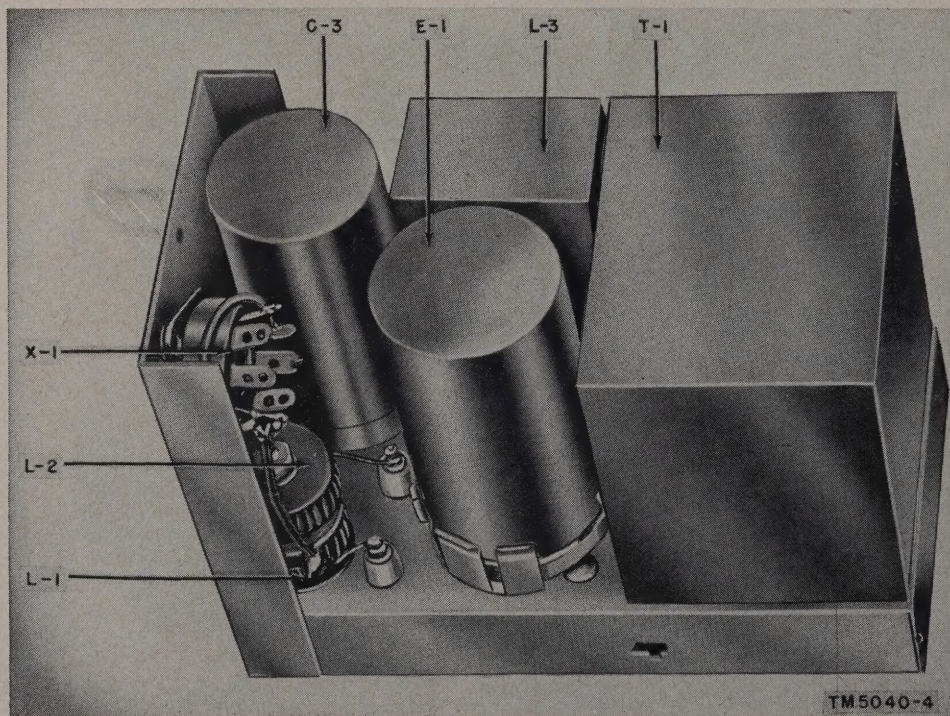

Figure 75. Power Supply PP-282/GRC, top view of chassis.
d. Plug-In Power Supply. Although it can be replaced as a single unit, the plug-in power supply is not furnished as a running spare. However, a spare vibrator is provided with the power supply (fig. 75). Remove the amplifier case and replace the vibrator as follows:
- (1) Loosen the clamp bracket at the rear of the power supply compartment and swing it out of the way.
- (2) Grasp the handle at the rear of the power supply unit and pull it straight out.
- (3) Remove the three green screws which fasten the top cover on the power supply chassis.
- (4) Using the handle on the cover, lift the cover off with a straight upward movement. If the cover is stuck, pry gently with a small screw driver.
- (5) Pull vibrator E-1 (fig. 75) from its socket with a straight upward movement. Do not rock or jiggle the vibrator while attempting to remove it. If necessary, use a small screw driver to pry the vibrator gently from its socket. Be careful not to enlarge the ring clip which holds the vibrator near the base.
d. Plug-In Power Supply. Although it can be replaced as a single unit, the plug-in power supply is not furnished as a running spare. However, a spare is provided for the vibrator within the power supply (fig. 75). Remove the receiver case and replace the vibrator as follows:
- (2) Grasp the handle at the rear of the power supply unit and pull straight out.